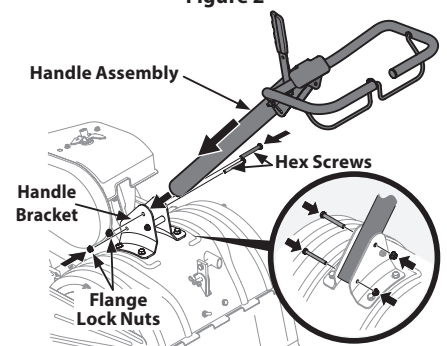

Figure 3
2. Place the handle assembly in position between the handle bracket. See Figure 3.